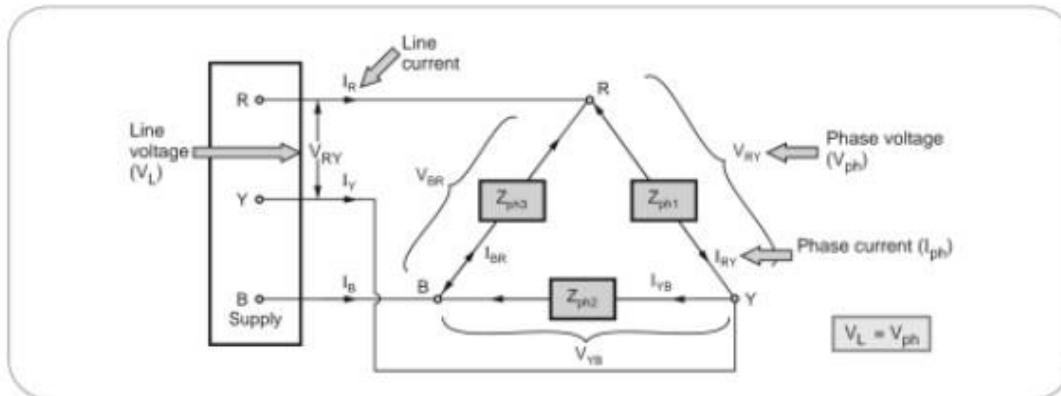

Fig. 1.5.7 Delta connected load
ii) **Delta connected load :** If the three impedances  $Z_{ph1}$ ,  $Z_{ph2}$  and  $Z_{ph3}$  are connected such that starting end of one is connected to terminating end of other, to form a closed loop it is called delta connection of load. The junction points are connected to supply terminals R-Y-B. This is shown in the Fig. 1.5.7.
- In the Fig. 1.5.7, the voltage across  $Z_{ph1}$  is  $V_{RY}$ , across  $Z_{ph2}$  is  $V_{YB}$  and across  $Z_{ph3}$  is  $V_{BR}$  and all are phase voltages.